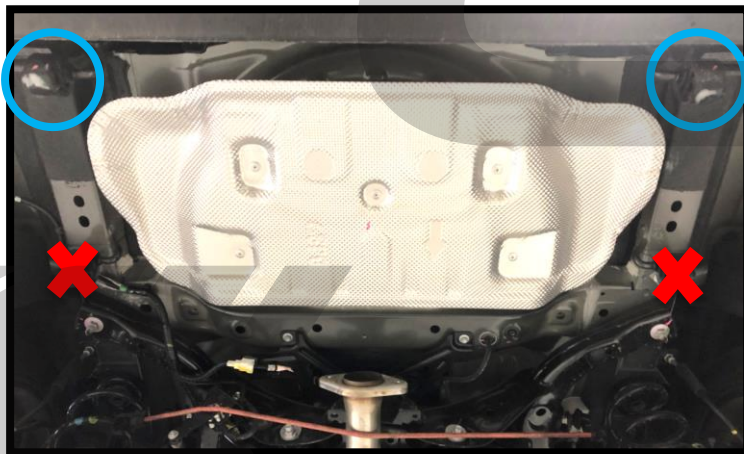

Figure 6a
a) Install the CorkSport axle back onto the rearmost rubber exhaust hangers. Hangers used shown with blue circles in **Figure 6a**. The forward axleback hangers are not used (red x in **Figure 6a**) Be careful to not scratch or damage the exhaust tips or the cutouts in your bumper.